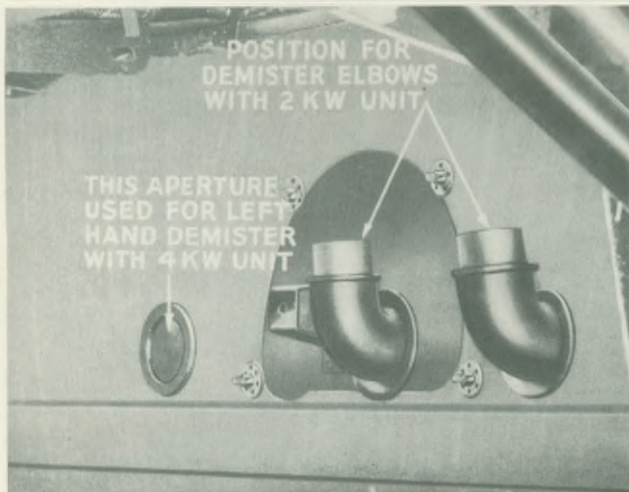

Fig. 35. Showing Demister Elbows assembled in position for 2 K.W. Unit and provision made for 4 K.W. Set
5. Remove the centre portion of the millboard trim under the facia panel and the small piece of similar material which surrounds the steering column, where this passes downwards towards the bulkhead tunnel. The trim is held in position by four screws and two nuts. The large piece of millboard must necessarily be removed before the smaller piece and this may be carried out after removal of the screws and by forcing the choke control out of its hole through the cut portion of the fabric. (Fig. 35 shows position of elbows.)